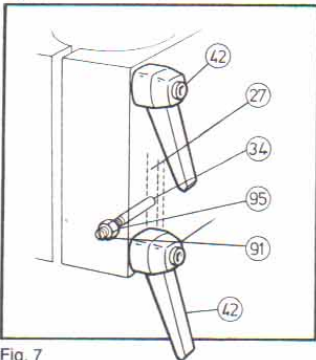

Fig. 7
The whole head unit is moved up and down the column by means of the handwheel on the side of the elevating head, a micrometer dial being fitted. The relative position between the elevating head and the column is assured by a vertical key. Two adjustable clamping levers (42) are used to clamp the head unit to the column, (Fig. 7).